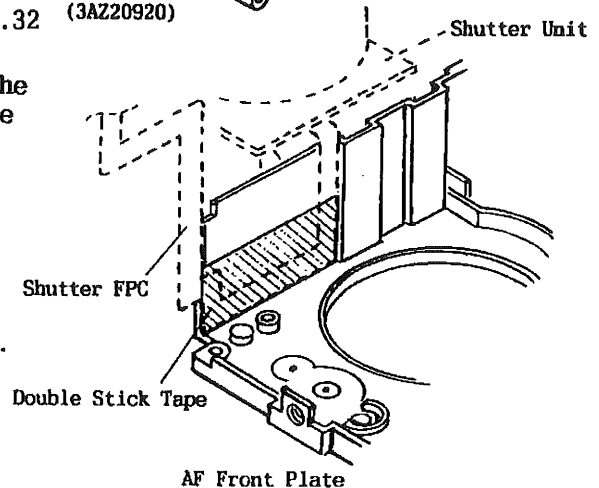

Fig. 33
- a) Remember that the Shutter FPC is fixed to the AF Front Plate with Double Stick Tape. (See Fig.33)
- 8) Attach the Shutter FPC on the Double Stick Tape. (Attach the Shutter FPC in the position as shown in broken lines in Fig. 33.) After attaching the Shutter FPC, take care not to break the printed circuit.